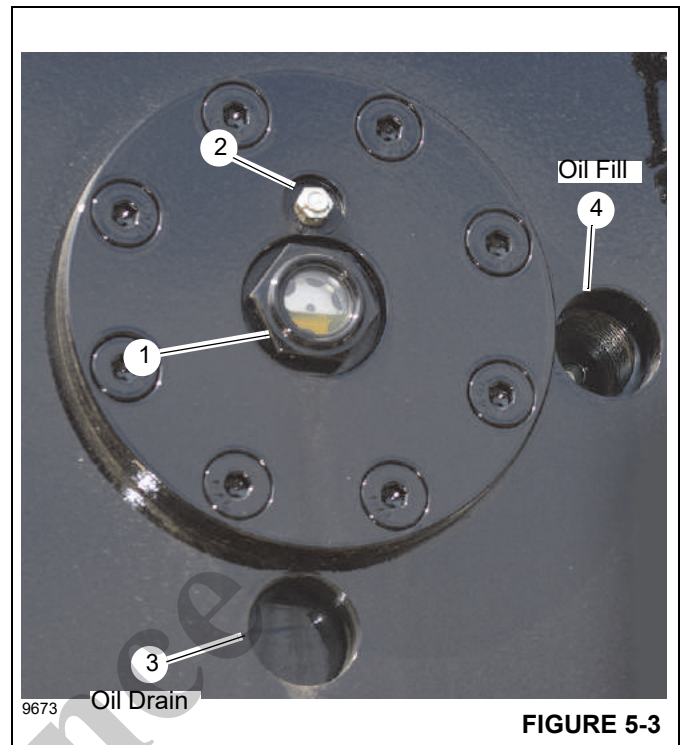
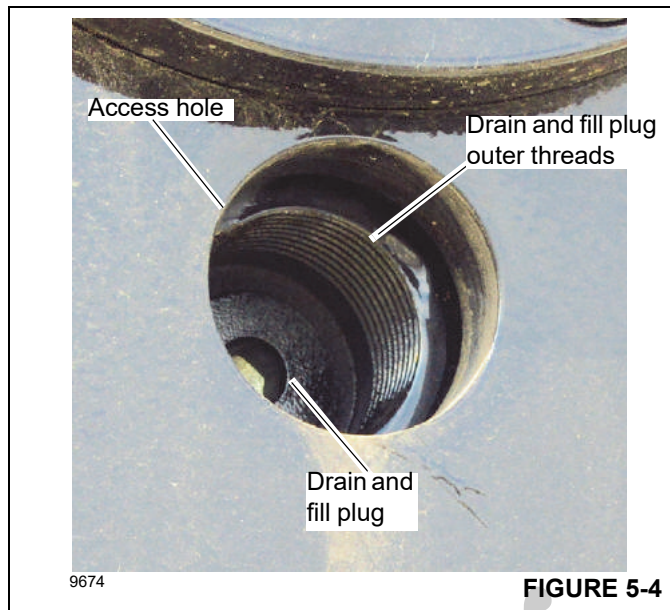

FIGURE 5-3
FIGURE 5-4
Check the oil level in the sight glass (1, Figure 5-3) on the hoist. When cool and not in operation, check the oil level in the sight glass. The oil should be approximately half-way up in the sight glass. The hoist gearbox and brake holds a maximum of 5.44 liters (11.5 pints) of oil.
The hoist oil drain and fill plug is located on the drum. The plug can be accessed through one of two access holes. The bottom (6 o'clock position) access hole (3, Figure 5-3) is used when draining the oil. The access hole on the side (3 o'clock position) is the used when filling the hoist with oil (4).
1. Remove the vent plug (2, Figure 5-3). Clean with solvent as needed. Set aside for later use.
2. Rotate the hoist drum so the drain and fill plug (Figure 5-4) is aligned with the oil drain access hole at the 6 o'clock position (3, Figure 5-3).
3. Install a short 1 inch (25 mm) pipe in the outer threads around the drain and fill plug (Figure 5-4).
8. Coat the vent plug (2, Figure 5-3) threads with oil and install the vent plug.
1. Rotate the hoist drum so the plug aligns with the oil fill access hole at the 3 o'clock position (4, Figure 5-3).
2. Using a 5/16 inch (8 mm) Allen wrench, remove the drain and fill plug (Figure 5-4).
4. Visually inspect the oil level through the sight glass (1, Figure 5-3). When done filling, the oil level should be approximately half-way up in the sight glass.
5. Using a 5/16 inch (8 mm) Allen wrench, install and tighten the drain and fill plug (4, Figure 5-4). Torque the drain and fill plug to 67.8 Nm (50 ft-lb).